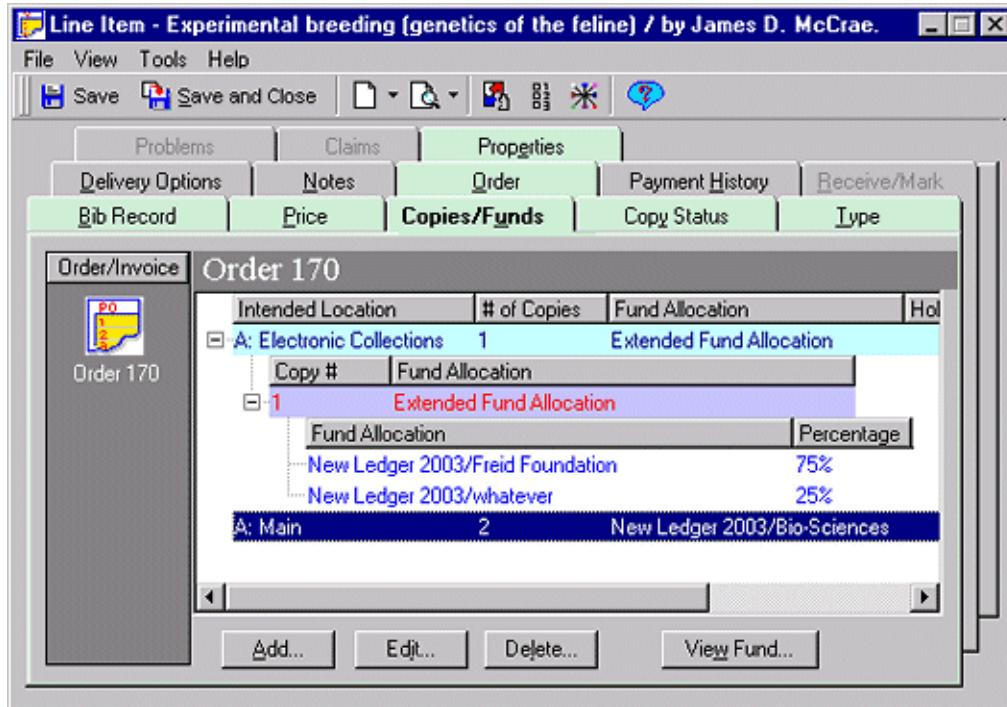

Figure 6-35. Copies/Funds tab, hierarchy
5. If your entries are complete and you will not be using the Extended Fund Allocation feature, click the **Close** button to return to the **Copies/Funds** tab of the **Line Item** dialog box (see Figure 6-35). Otherwise, continue with Procedure 6-13, Editing extended fund allocations or Procedure 6-14, Adding an extended fund allocation.
Result: The fund's allocation is changed. The **Copies and Funds** dialog box closes, and all copies and funds for the item display in a hierarchical structure on the **Copies/Funds** tab of the **Line Item** dialog box (see Figure 6-35).
Result: An extended fund allocation is added to a copy. The **Copies and Funds** dialog box closes, and all copies and funds for the item display in a hierarchical structure on the **Copies/Funds** tab of the **Line Item** dialog box (see Figure 6-35).
The copy and fund information displays in a hierarchical structure on the **Copies/Funds** tab (Figure 6-35) after fund allocations have been completed.